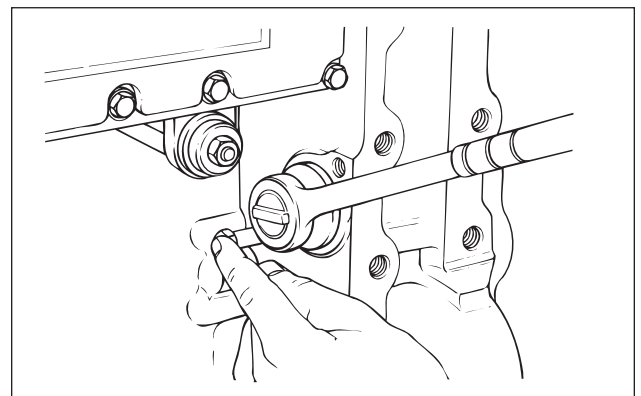

FIG. 3
5. Turn the flywheel in the direction of engine rotation (counterclockwise when viewed from the flywheel end of the engine). Turn until the flywheel hole is aligned with the timing bolt (see Fig. 3). When the timing bolt can be turned freely in the flywheel threaded hole, the engine No. 1 piston is at TDC.